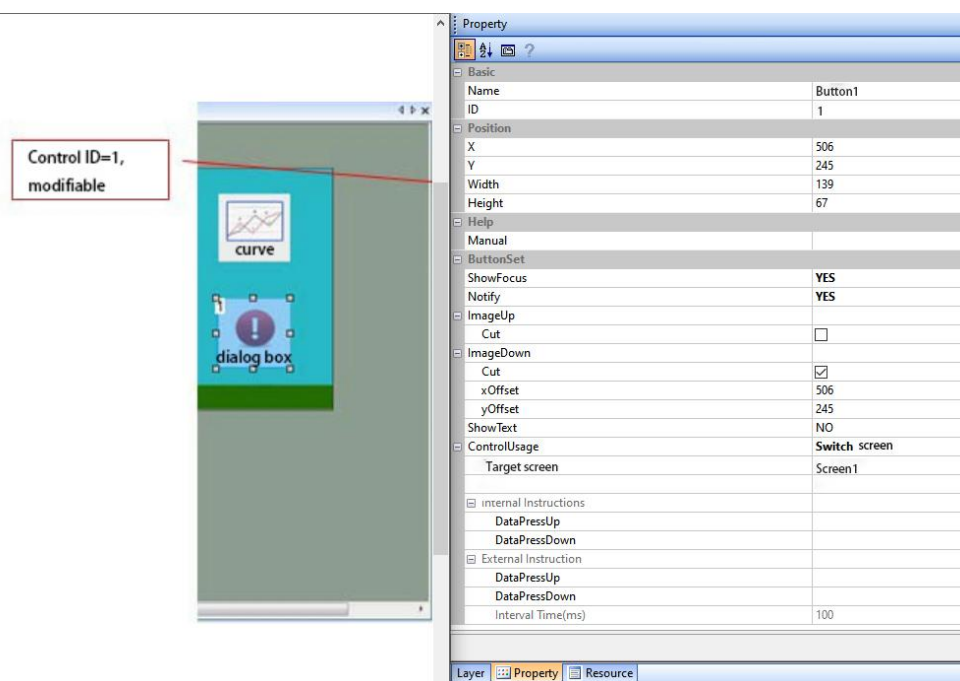

Figure 2-5 Button Control-Toggle Screen Configuration Diagram
- (1) Switch screens. Switching the screen means that the screen automatically switches to another screen display after pressing a button. For example, as shown in Figure 2-5, the user wants to switch to the screen after clicking the "Dialog Box" icon to switch to the screen Screen1 display